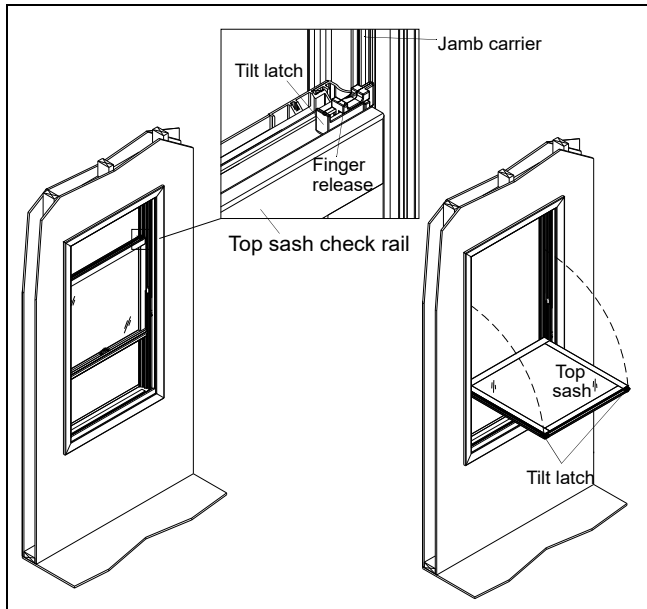

Figure 22 Interior view
21. To tilt the top sash, lower top sash about 1/2 way. Pull the tilt latches (in the edge of sash top rail) until they release on each side. Hold latches until they clear unit frame when tilting. ease top of sash toward you to horizontal position. See figure 22.